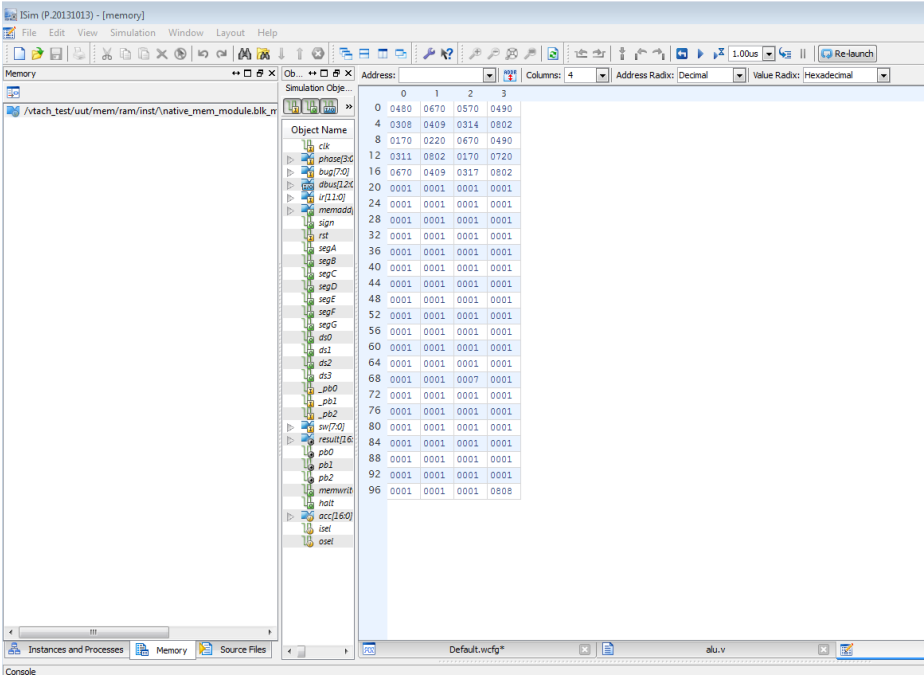

Figure 5-28 Memory display
8. Select the memory tab, double-click the block memory link, and you will see the contents of your memory, which includes your program and data (location 70)—see Figure 5-28.